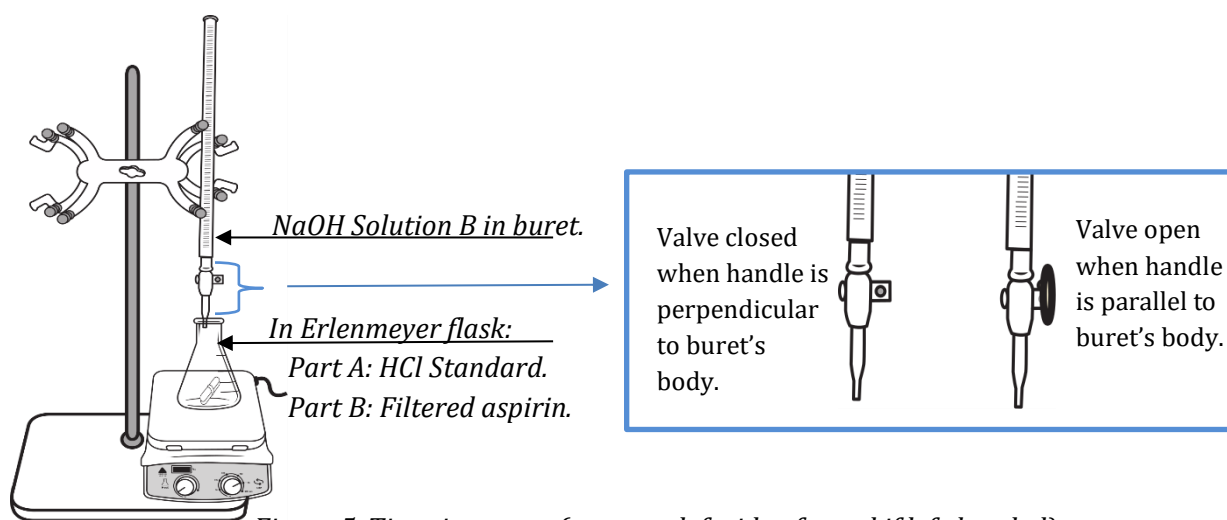

Figure 5. Titration setup (setup on left side of stand if left-handed).
- b) Place the buret clamp on the stand and position the magnetic stirrer so that the buret may be suspended as close as possible over the center of the magnetic stirrer. See Figure 5.